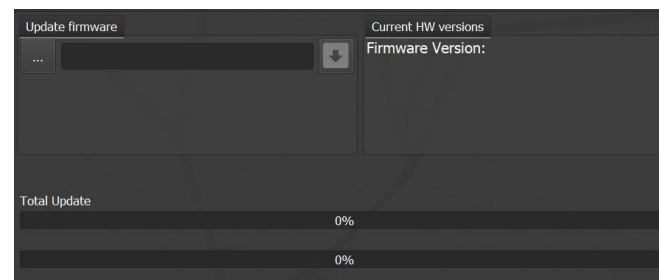

Fig. 36 Update Window
2. A new window shall pop up (Fig. 36).
3. The version of the firmware can be verified on the top right of the window (Fig. 36).